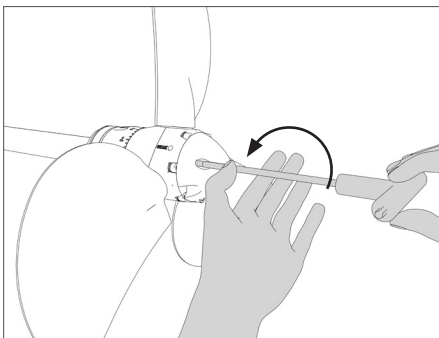

FIG. 31 Unscrewing the tip screws
- Remove the tip **C** unscrewing the stainless steel screws **D** (Fig. 31 - 32 - 33).